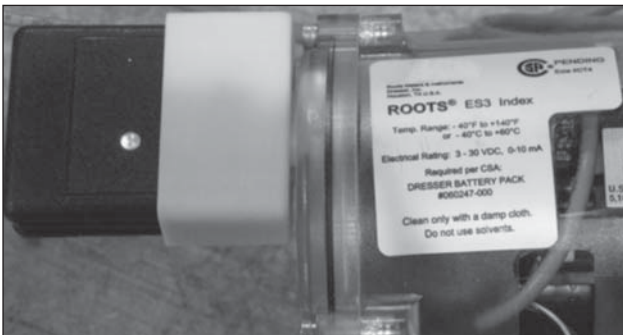

Figure 2 - Light indicating connections is established
- Once the ES3 unit is put into "Prove Mode," the flashing light changes to a solid light, as shown in Figure 2.